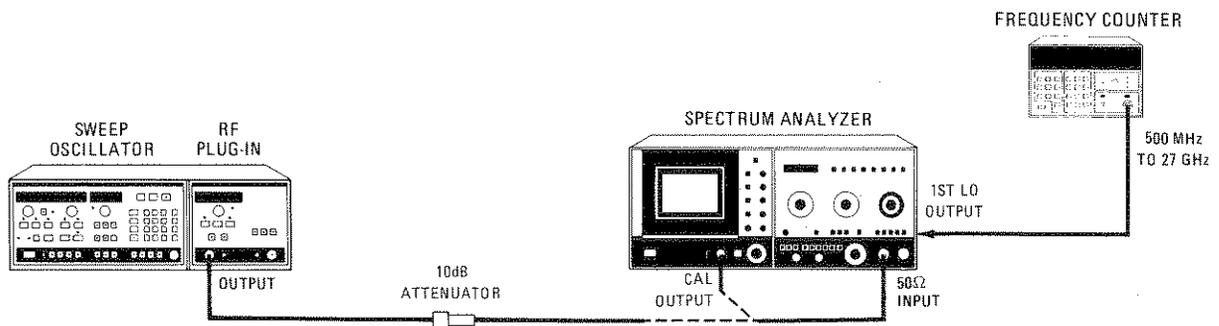

Figure 4-7. Residual FM Test Setup
1. Connect equipment as shown in Figure 4-7. Connect the spectrum analyzer CAL OUTPUT to the spectrum analyzer input.